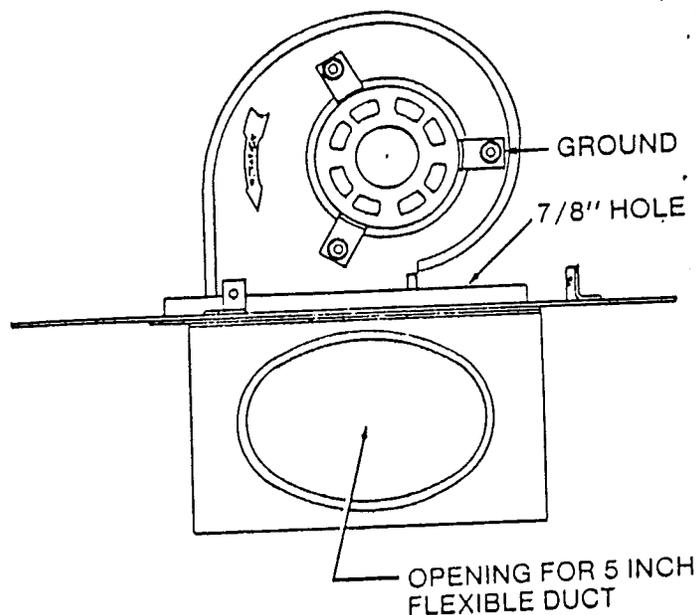

FIGURE 16
9. Route electrical wires and conduit up through 7/8 inch hole behind blower housing. See fig. 16.
12. Attach the green ground wire from the conduit to the motor mount. See figure 16.